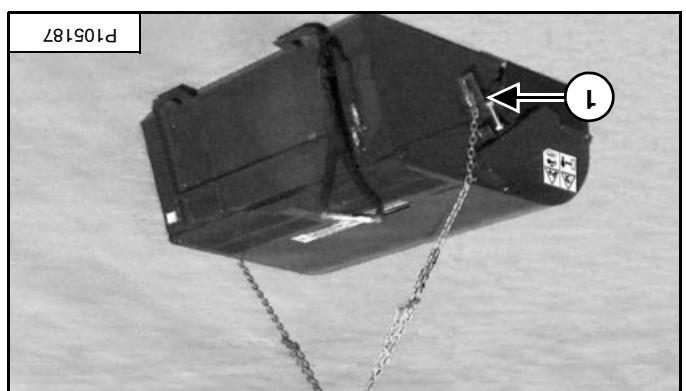

Figure 104
Connect the chains to the slot in the sweeper adjustment brackets on each end of the sweeper (item 1) [Figure 104].